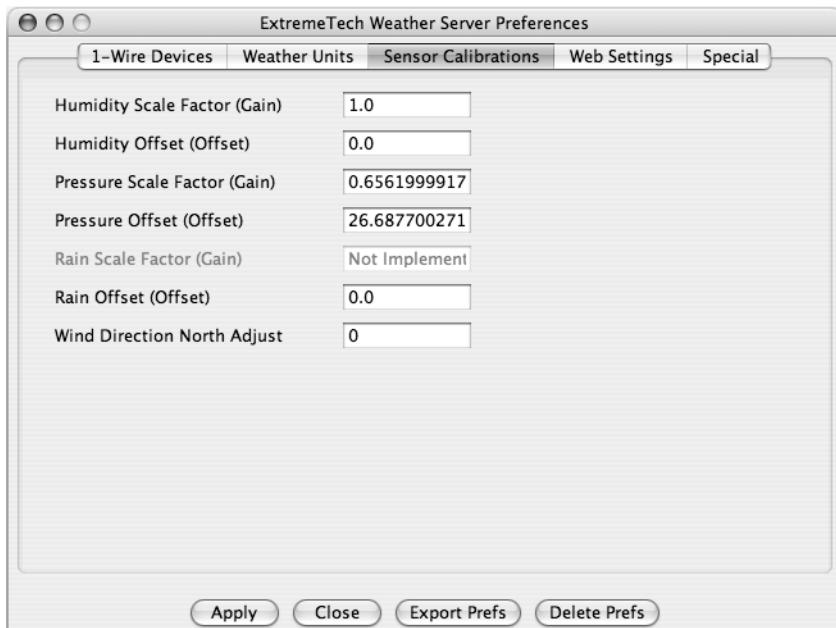

FIGURE B-4: Sensor calibrations.
18. Click the Sensor Calibrations tab to display the various values that can be applied to calibrate a sensor's measurement. As shown in Figure B-4, you can set the scale factor and intercept (also called gain and offset, respectively) for the barometer and humidity sensor. There is also an offset field to set the rain counter to zero, and a field to enter an integer to adjust the wind vane for proper north orientation. If you have already built and calibrated one of the sensors, enter the calibration values and click Apply.